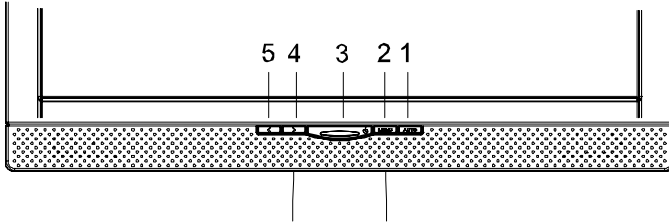

Figure 4. Monitor features
1. First start your PC and then turn on your monitor using the power switch (① in fig. 4).
The status indicator (① in fig. 4) should light up green.
You can adjust the image settings (such as brightness, contrast, image position, phase, etc.) manually or by using the LCD monitor's automatic image adjustment feature. This will adjust the image parameters to their optimal settings for the current graphics mode. Press AUTO (① in fig. 4) to launch the automatic adjustment. The process will take a short while until completed.
You can adjust the speaker volume of the integrated audio system directly by pressing the ► buttons (④ in fig. 4) while the OSD menu is inactive. Next press the ► button to increase the volume or the ◀ button to decrease it.
You can adjust brightness and contrast directly by pressing the ◀ buttons (④ in fig. 4) while the OSD menu is inactive. Next, press the ◀ or ► buttons (④ and ⑤ in fig. 4) to adjust the brightness or the ◀ or ► buttons (④ and ⑤ in fig. 4) while the OSD contrast.
Press the **MENU** button (② in fig. 4) to display the OSD menu on the screen.
1. There are a total of 5 OSD submenus divided by categories. Select the desired submenu by pressing the ◀ or ▶ button (④ and ⑤ in fig. 4; see section "OSD Menu Functions").
2. Press the button **MENU** (② in fig. 4) to activate the selected function or associated submenu.
3. If you selected submenu, now select the sub-function you want using the ◀ or ▶ buttons (④ and ⑤ in fig. 4).
5. Press the **MENU** button (② in fig. 4) to save the setting. Repeat setups 2-5 to make further adjustments as needed.
6. The OSD menu automatically disappears if no changes are made for more than 20 seconds (default setting). The current settings will be saved. You can close it manually by pressing the **AUTO** button (① in fig. 4).